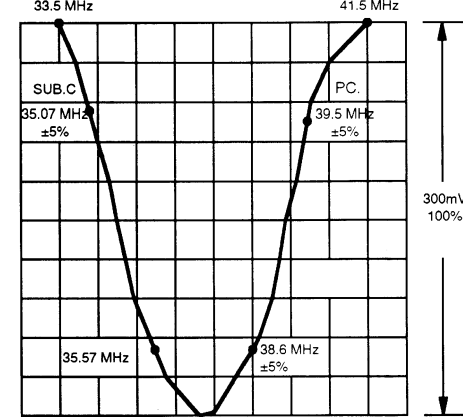

Fig.4
A. PREPARATION STEP (SEE FIG.4)
- 3. Adjust the ferrete core in the tuner until the marker 39.5MHz has maximum amplitude and 35.07MHz has a difference of 1 division as shown in Fig.4.